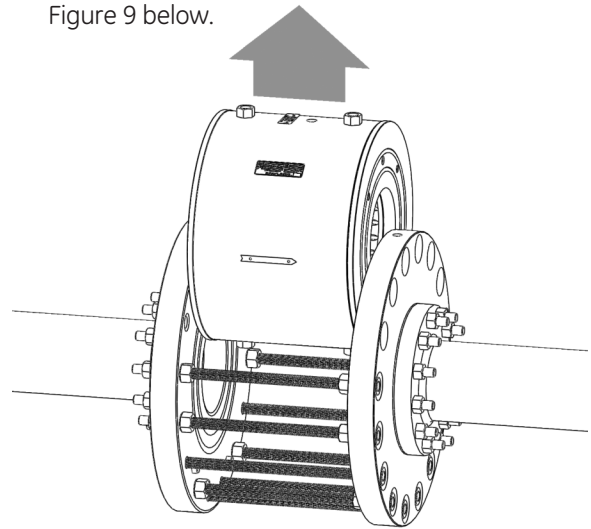

Figure 9 - Lift body assembly out of line.
5. Using the lifting lugs in the Surge Reliever body, lift the body assembly out of the line as shown in Figure 9 below.